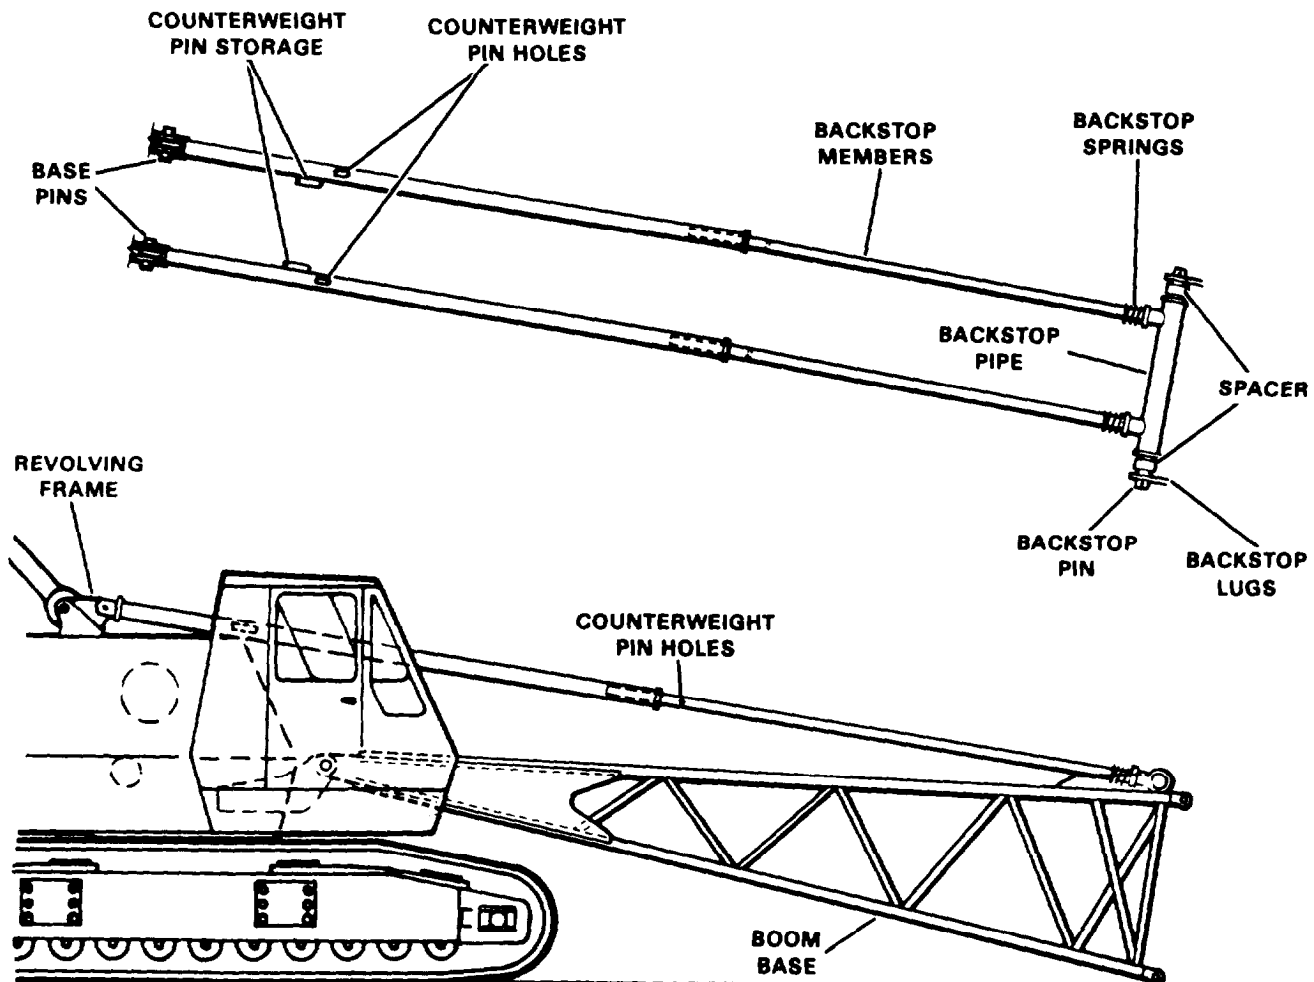

Figure 4-2. Boom Backstop Installation (2100N509)
1. Lay the backstop assembly on the boom base. Start the backstop pin through the lug on the boom base, the spacers and the backstop pipe. Lock the backstop pin with the cotter pins (see Figure 4-2).